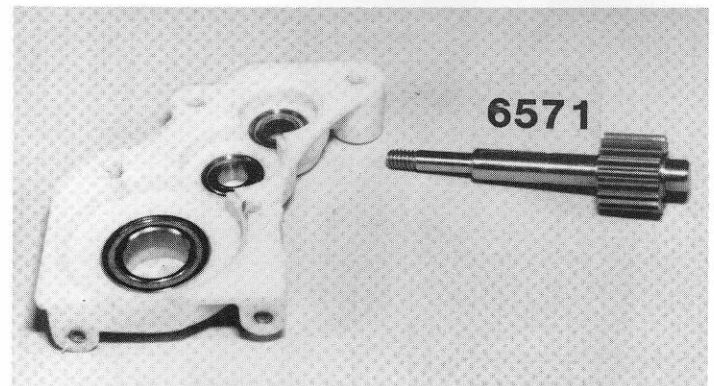
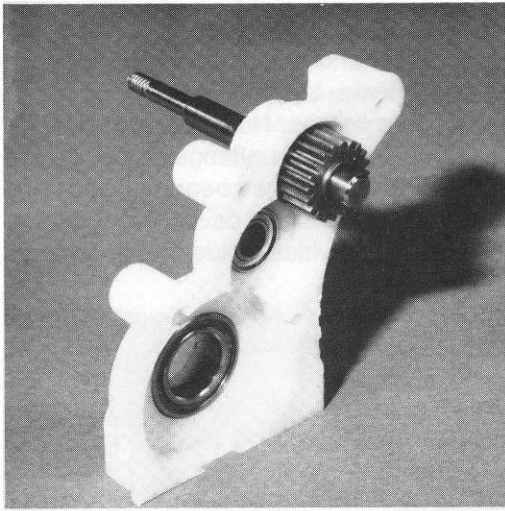

Fig. 58
Fig. 59
□ **Figs. 58 & 59** Open bag D and remove the #6571 drive gear assembly. Carefully deburr the roll pin hole in the drive gear so the hole is not blocked and there are no raised edges around the hole. Check both sides of the hole. We are doing this to make sure the roll pin will fit and that the bearing will slide on the shaft. Now take the #6571 drive gear and insert the shaft through the upper bearing of the right case half so that the shaft is to the outside and the gear is inside against the bearing as shown in fig. 59.